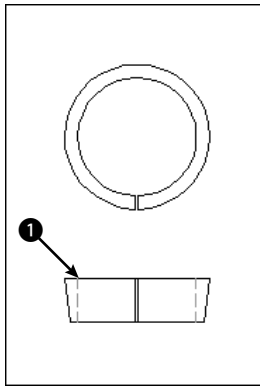

Figure 9-9: The valve piece in two views.
2. Save the file as ab09-06.dwg in your AutoCAD Bible folder. This drawing, shown in Figure 9-9, shows part of a valve that is manufactured in several sizes. In this exercise, you scale both views to represent a different-sized valve piece. Ensure that OSNAP is on. Set running object snaps for quadrant and endpoint.
Specify base point: *Use the Endpoint object snap at point 1 in Figure 9-9.*